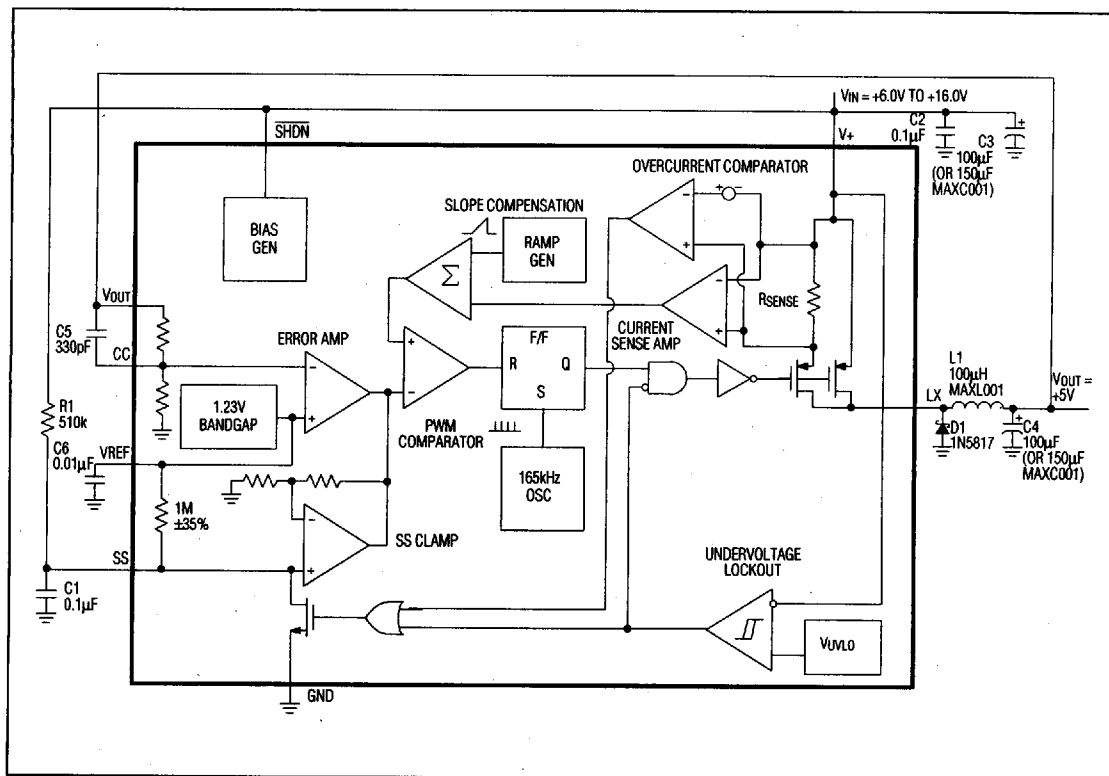

Figure 1. MAX730/MAX738 Detailed Block Diagram with External Components
The controller consists of two feedback loops: an inner (current) loop that monitors the switch current via the current-sense resistor and amplifier, and an outer (voltage) loop that monitors the output voltage through the error amplifier (Figure 1). The inner loop performs cycle-by-cycle current limiting, truncating the power transistor on-time when the switch current reaches a predetermined threshold. This threshold is determined by the outer loop. For example, a sagging output voltage produces an error signal that raises the threshold, allowing the circuit to store and transfer more energy during each cycle.
Figures 1 and 2 show a capacitor and a resistor connected to the Soft-Start (SS) pin to ensure an orderly power-up. Typical values are 0.1 μ F and 510k Ω . SS controls both the SS timing and the maximum output